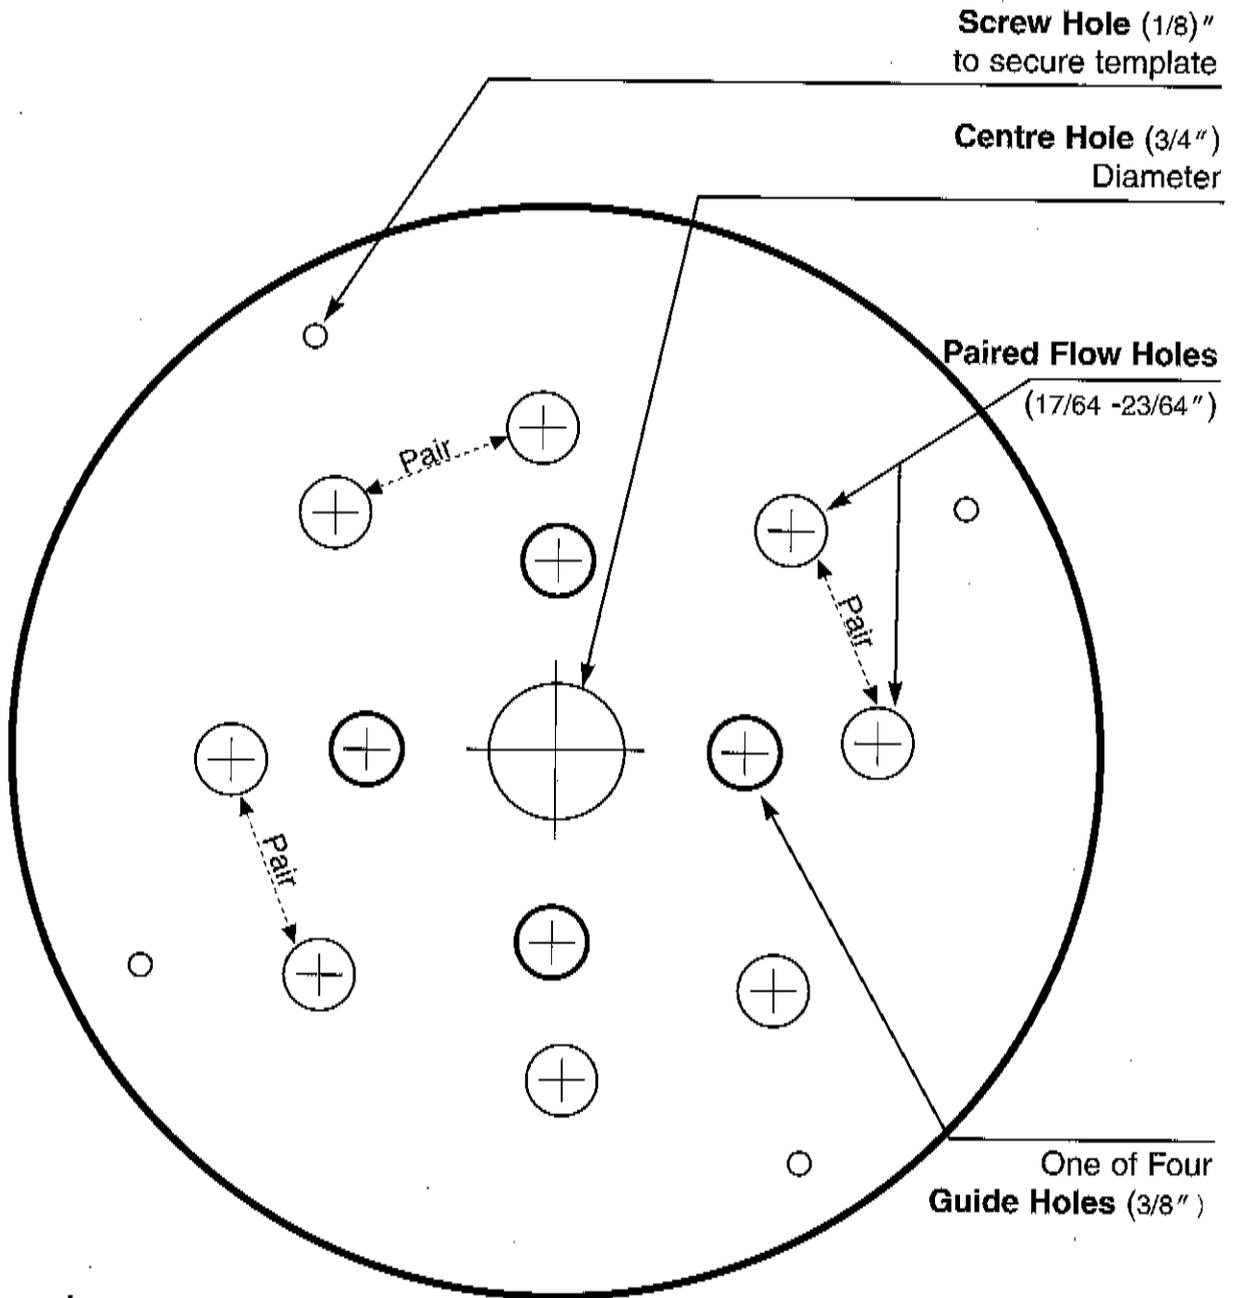

Figure 4. Template Guide for the construction of a flow control plate.
## Flow Control Plate Construction (Figure 4)
1. Tape template guide (Figure 4) to metal sheet